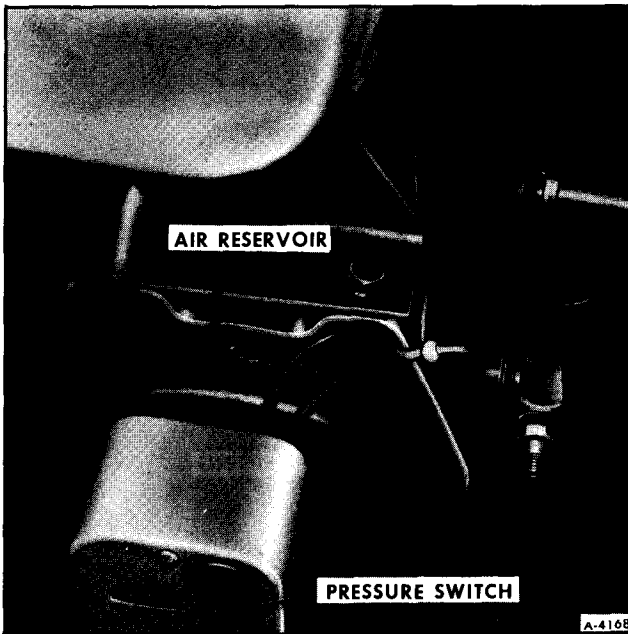

Figure 8—Pressure Switch Installed
2. Remove one screw at top of switch cover and remove switch cover (figure 8).